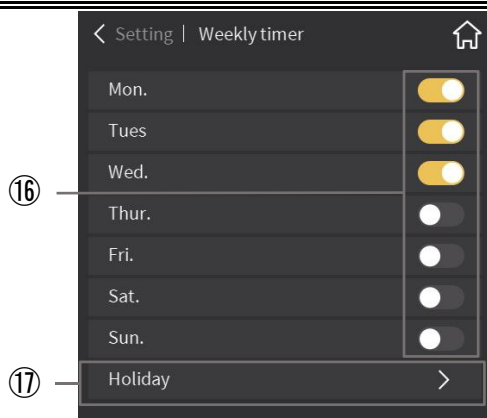

Fig.2.11.9
⑫ **This icon is for keystroke volume setting;**
⑬ This icon for keystroke volume increasing;
⑭ This icon for keystroke volume decreasing;
Touching icon will pop up a sub-window as shown in fig.2.11.9, for setting keystroke volume. By touching icon⑬ and icon⑭ to increase/decrease keystroke volume, the volume is displayed by the proportion on the volume bar of 5 blocks.